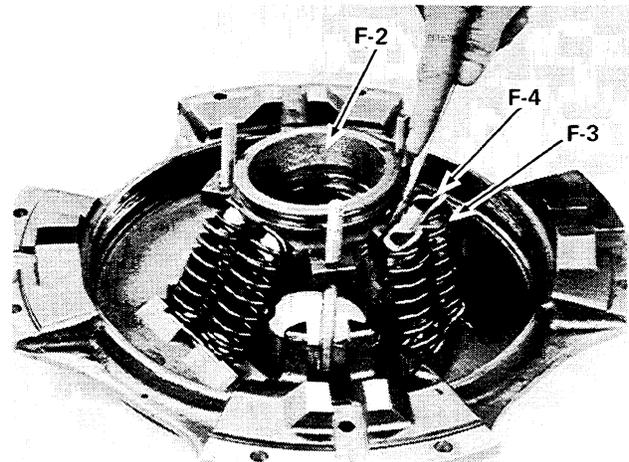

Figure 15:
13. To disassemble pressure springs (F-3) and retainer, compress retainer to relieve load on hex nuts. Back off hex nuts and remove load on pressure springs. Remove pressure springs and spring pivots (F-4) (see Fig. 15).